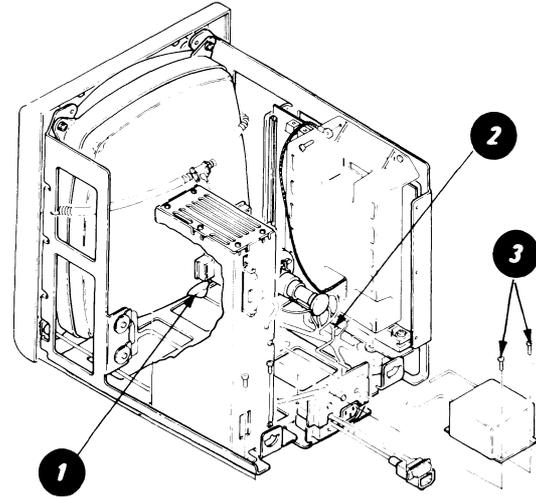

Figure 22 - High Voltage Power Supply Removal
4. Disconnect the anode lead ① from the CRT (see Figure 22).
5. Disconnect cable plug J3 from the connector strip ②.
6. Remove the two screws ③, and slide the power supply to the rear until free. (Save the two starwashers that are between the power supply cover and the mainframe.)